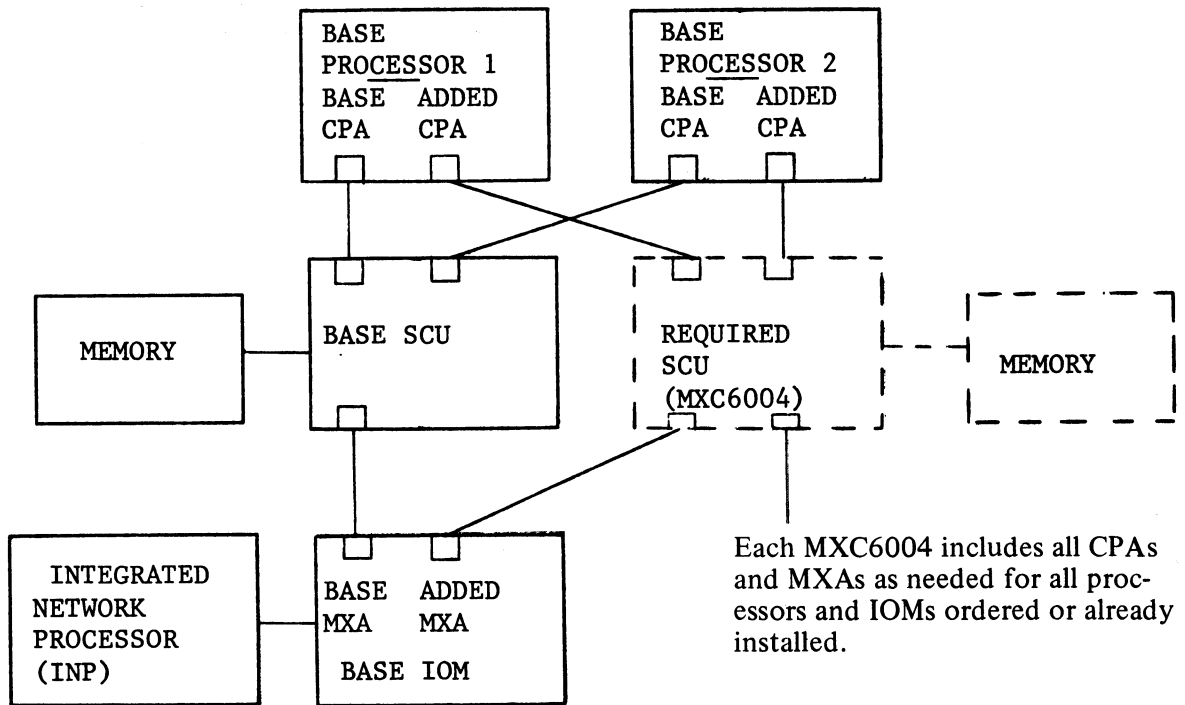

Figure 1-4. Upgraded Net Base System – DPS Models
b. Net Base System (See Figure 1-4.)